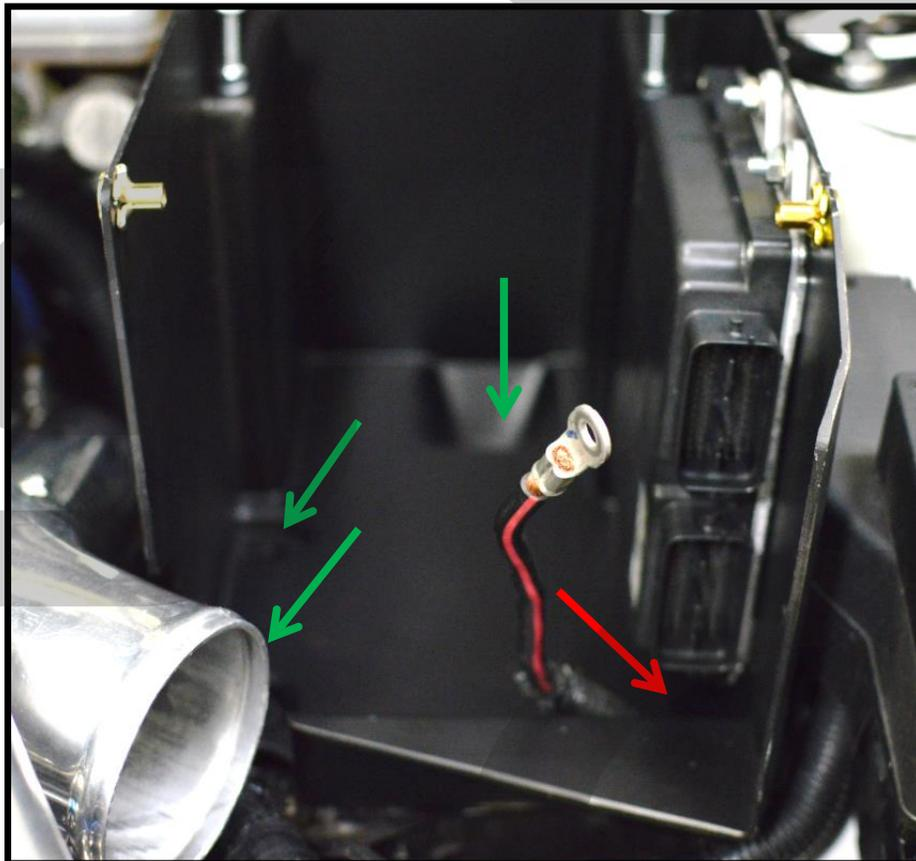

Figure 4b
- b) **Install the box into the engine bay.** While doing so, route the black w/red stripe wire through the corner of the box with a small opening. Shown with the **red arrow** in **Figure 4b**.
- c) **Install the three OEM mounting bolts** in the locations show with **the green arrows** in **Figure 4b**.